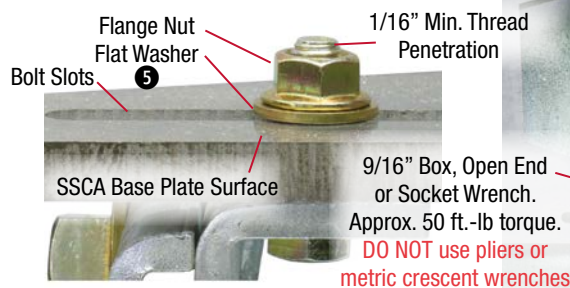

Fig.14
- Fully tighten flange nuts with a 9/16" wrench or socket. See Fig.14.